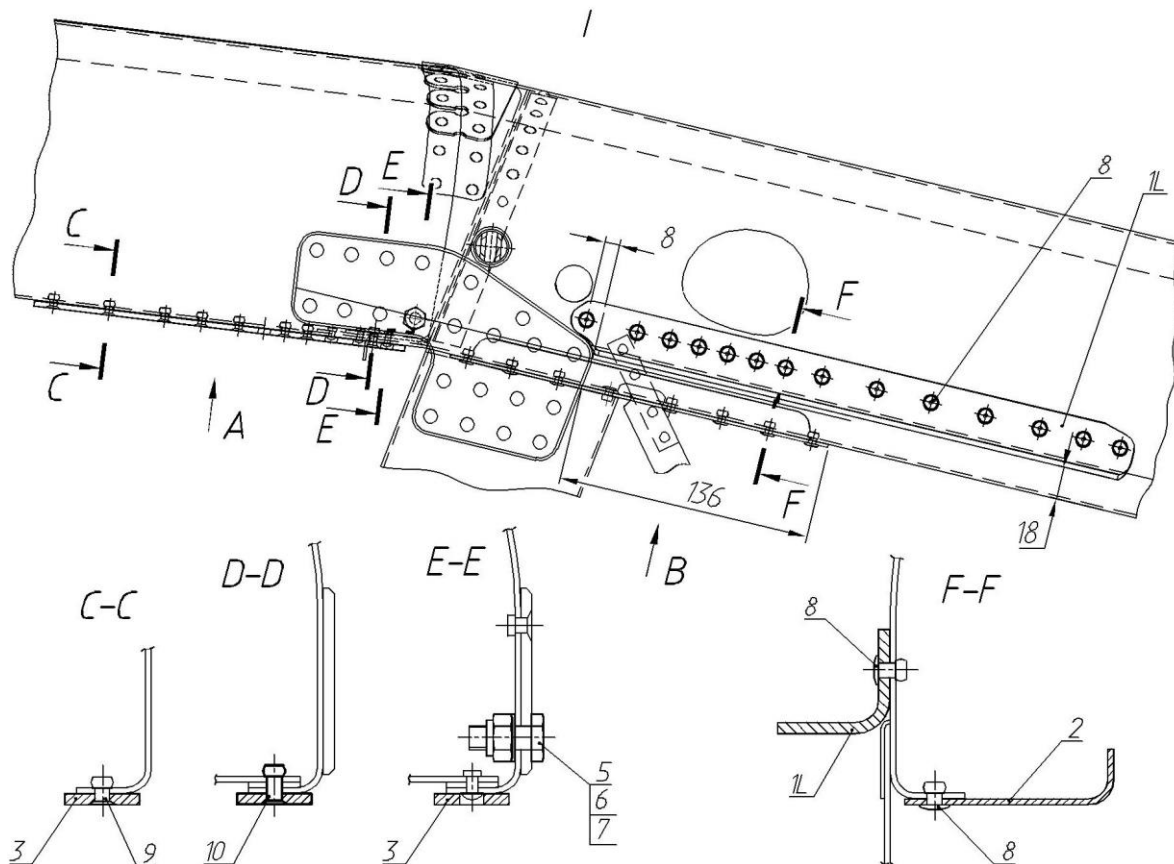

Fig. 2
3.2.1 Zone I, reinforcement of fuselage rear of frame 3 (fig. 2 and 3)
- 3.2.2 Zone I, reinforcement of fuselage forward of frame 3 (fig. 2 and 4)